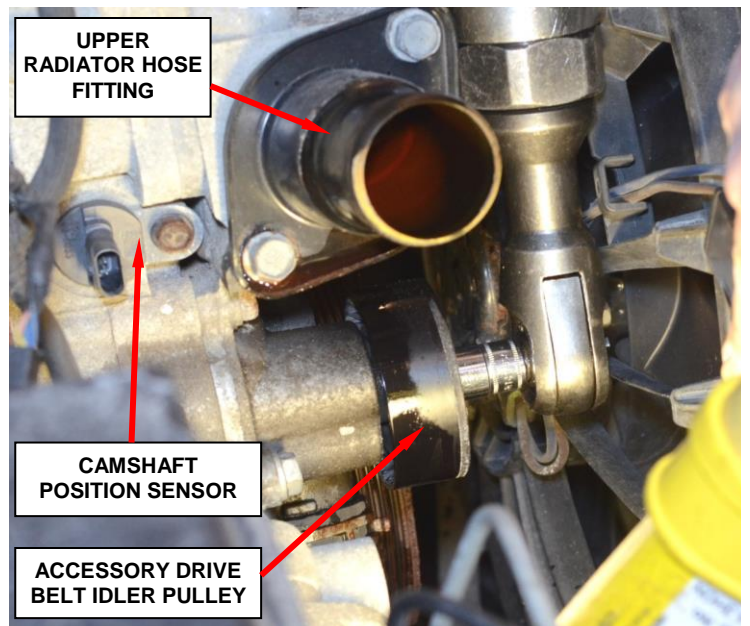

Figure 2 – Accessory Drive Belt Idler Pulley
12. Remove and save the accessory drive belt idler pulley (Figure 2).